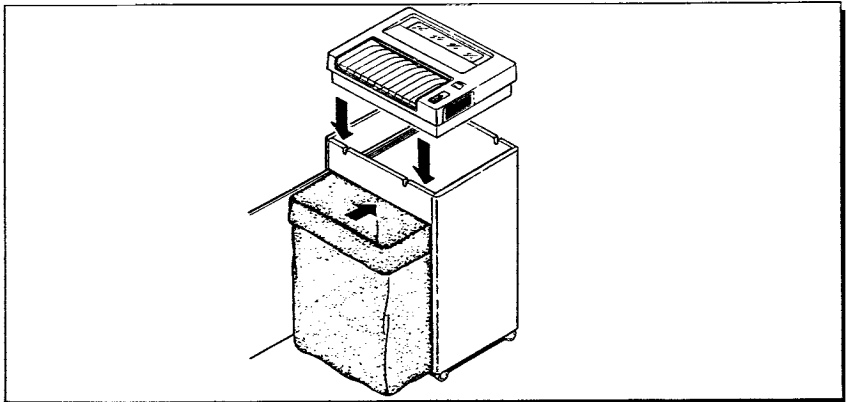

Figure 3.1
1. Place the machine-head into the top of the cabinet (refer to figure 3.1). The control panel may face toward the front or back of the cabinet.